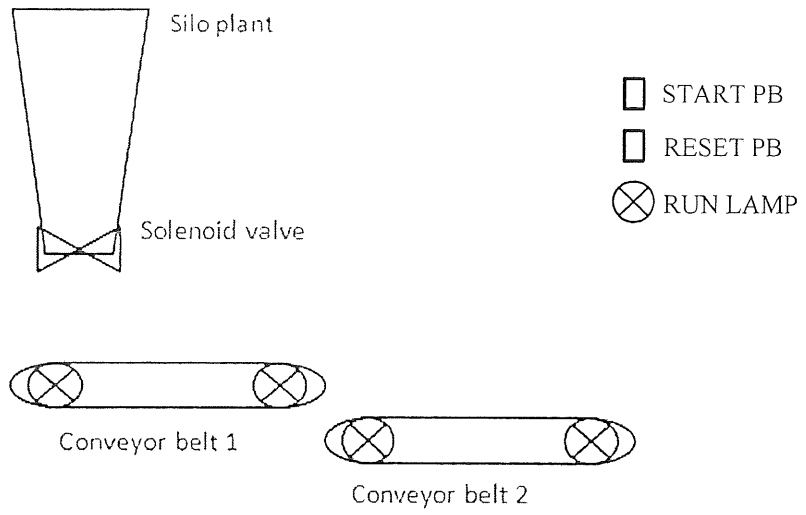

Figure 2
- d) Figure 2 a silo plant equipped with two conveyors running using two motors separately. By pressing pushbutton Start, a Run indicator lamp will turn on and after 5 seconds, conveyor belt 1 operates. Then after another delay of 5 seconds, conveyor belt 2 turns on and solenoid valve opens immediately. This event will maintain until pushbutton Reset is press. When pushbutton Reset is pressed, all the conveyor motors, solenoid valve and Run indicator lamp need to turn off.